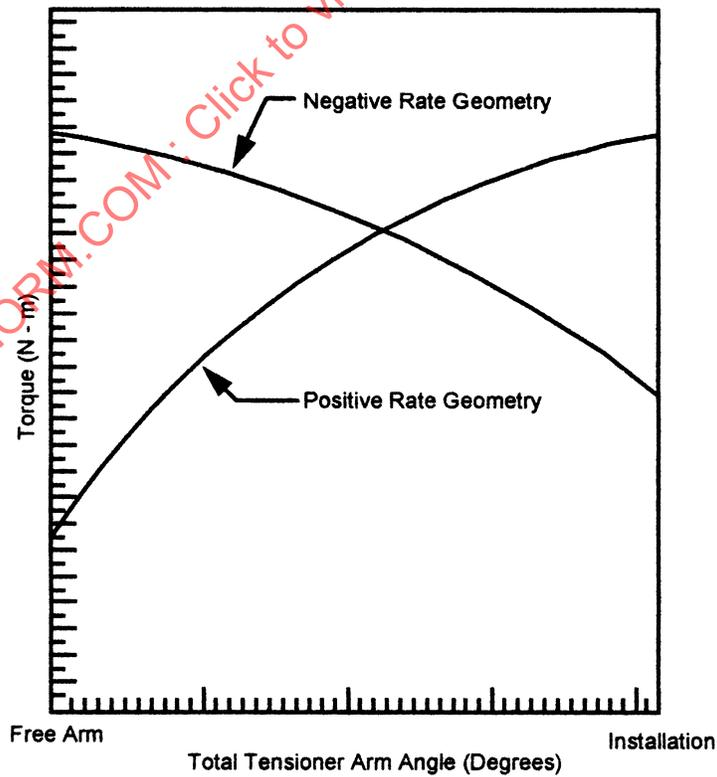

FIGURE 2—TENSIONER TORQUE REQUIREMENT CURVE
- 3.2 **Positive/Negative Rate Geometry**—A positive/negative slope resulting from the linear approximation of the tensioner torque requirement curve. (See Figure 2.)
- 3.6 **Tensioner Belt “Take-Up”**—The amount of belt length change a tensioner will accommodate as a function of tensioner arm displacement within the tensioner operation range. (See Figure 2.)